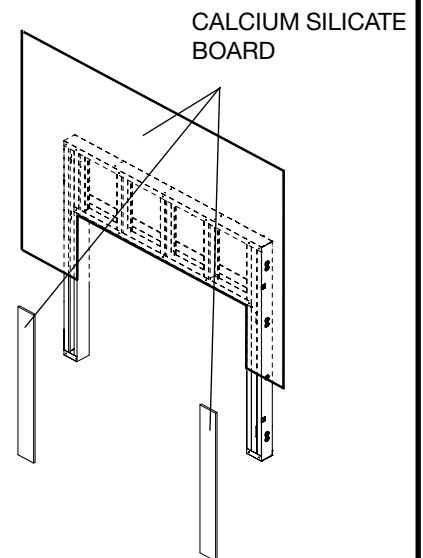

Figure 16: Non combustible calcium silicate board.
**CAUTION:** See Figure 16 BEFORE PROCEEDING.